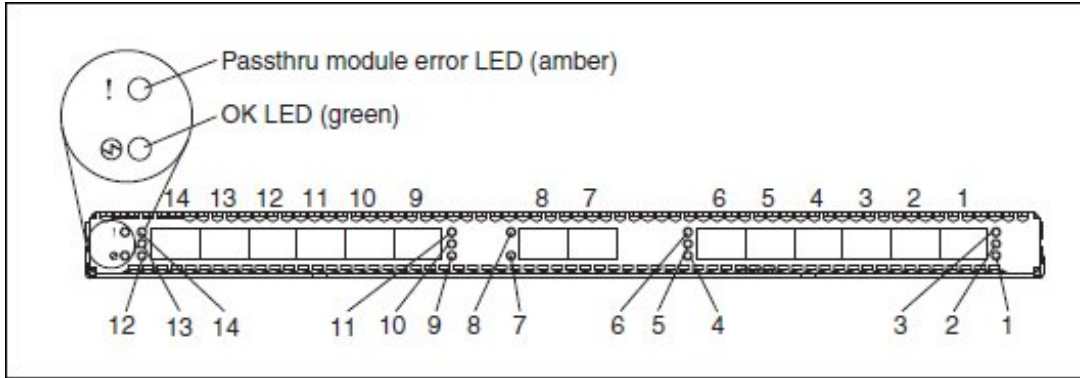

Figure 4. Front panel of the 10Gb Ethernet Pass-Thru Module for BladeCenter H chassis
- Each external SFP+ port on the pass-thru module contains an link status LED - the port number associated with each LED is indicated in Figures 4 and 5.